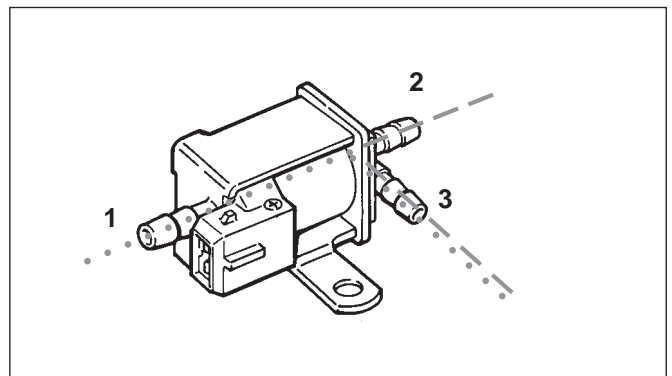

Fig. 3 Electric switch over valve
- Check for fouling with a hand vacuum pump, Fig. 3.
- Without voltage applied, connect hand vacuum pump to connection 2, Fig. 3 and apply a differential pressure of about 500 mbar.